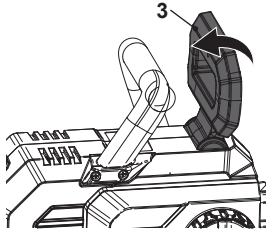

Fig. 16: Disengage the chain brake
Disengage the chain brake: When the chain brake lever (3) is in the disengaged position, the product can be operated with running saw chain (Fig. 16).